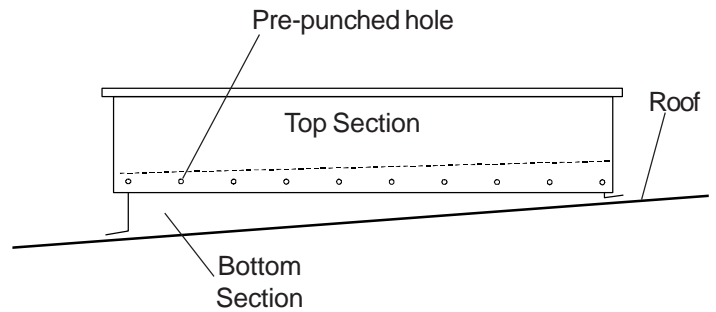

Figure 3
6. Hoist diffuser/duct assembly into position and support as shown in Fig. 3 (on page 4). Attach duct kit to transition assembly. Tape and caulk as required. See page 4 for hanging details.